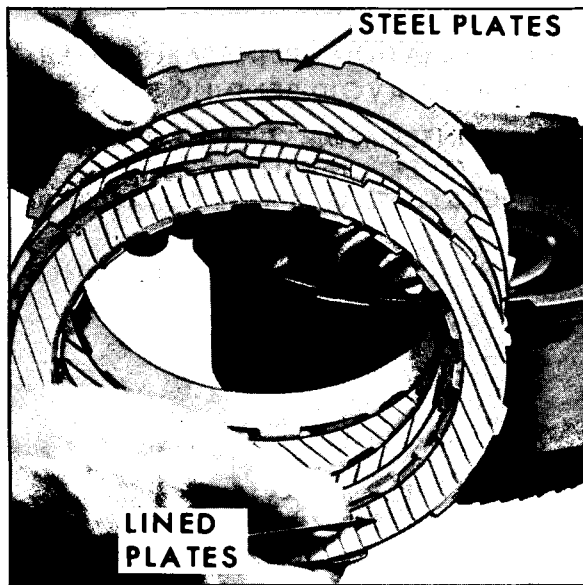

Fig. 7G-98 Removing Direct Clutch Plates
6. On **V-8 models**, remove four (4) faced (lined) plates and four (4) steel separator plates (Fig. 7G-98).